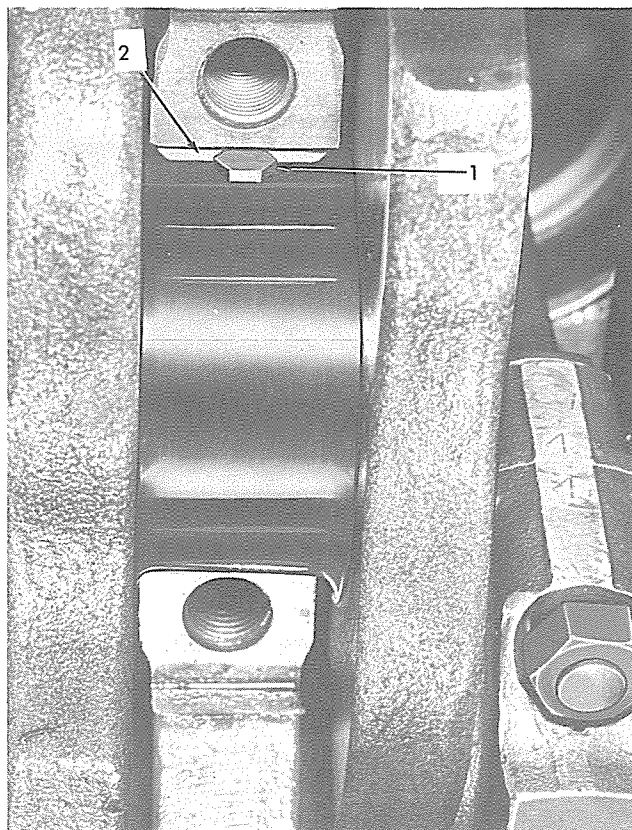

Fig. 6 — Removing Main Bearing Upper Shell
- (1) On early models insert a 1/4" x 1" capscrew, with the head ground down to a thickness of approximately 3/32" into the crankshaft main bearing oil hole as shown in Fig. 6, then rotate crankshaft in the direction that will turn head of the bolt against end of bearing shell that has no locking tang. Continue rotating crankshaft until bearing shell has been pushed out. On late engine w/cross drilled oil holes, use method shown in Fig. 7.